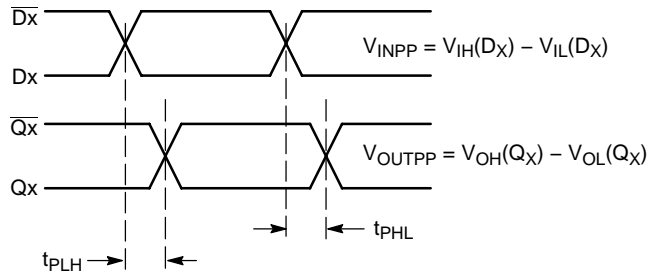

Figure 9. AC Reference Measurement
**Table 6. AC CHARACTERISTICS**  $V_{CC} = 3.0\text{ V to }3.6\text{ V}$ ,  $V_{EE} = 0\text{ V}$  (Note 7, Figure 9)